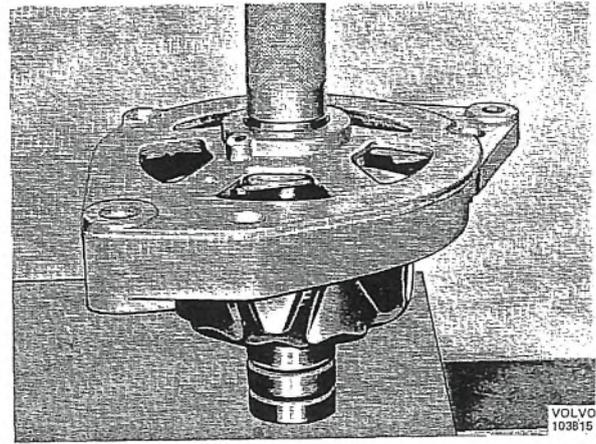

Fig. 3-44. Assembling rotor and slip ring end shield
3. Press the end shield and spacer ring onto the rotor as shown in Fig. 3-44.